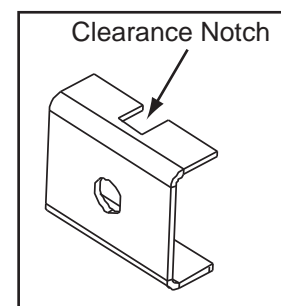

Figure 32.3
9. Each clip has a clearance notch to allow room for the cast on the insert. Place the clip so the notch is facing the outer edges of the surrounds. **Figure 32.3.**